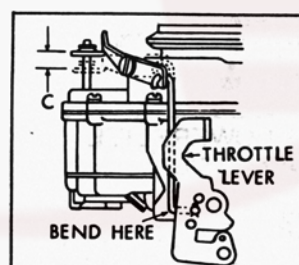

FIGURE 3
- See Figure 3 and Adjustment Data Table. Hold carburetor in vertical position and operate pump to permit check ball to take its normal position on seat. With choke valve held open and pump rod in center hole of throttle lever, measure travel (C) of accelerating pump as throttle valves are moved from fully closed to wide open position. When pump travel is not as specified in the table, bend pump rod as required at angle.
PUMP ADJ. Fig.3